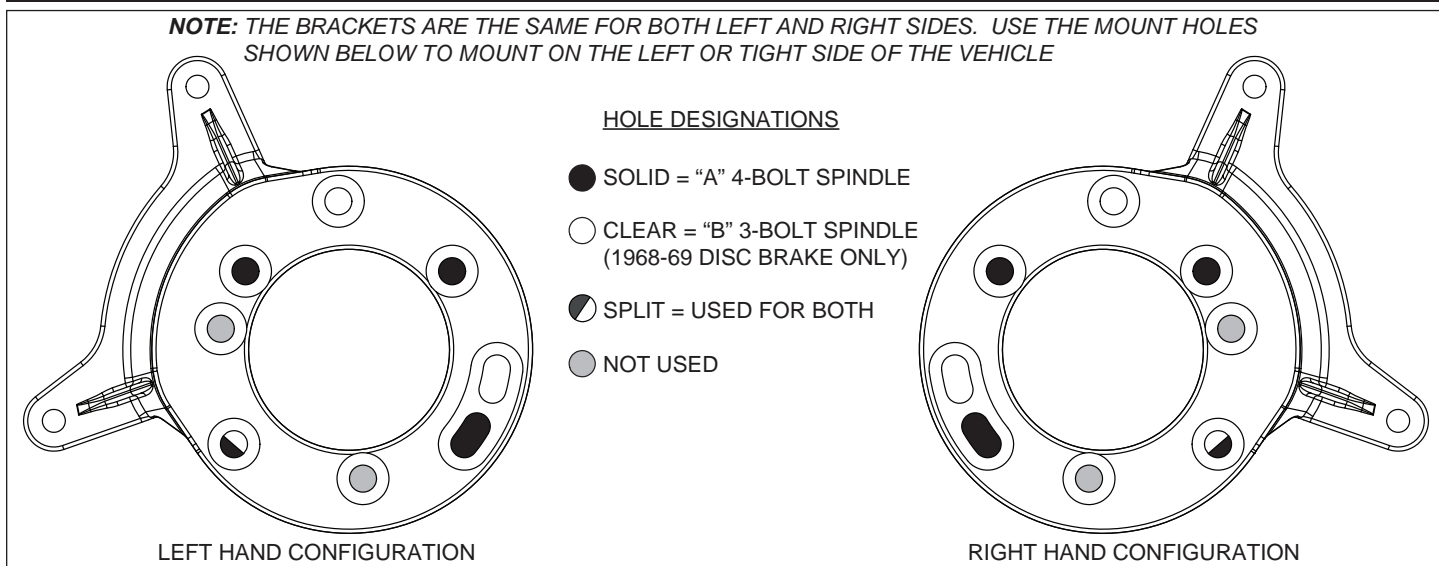
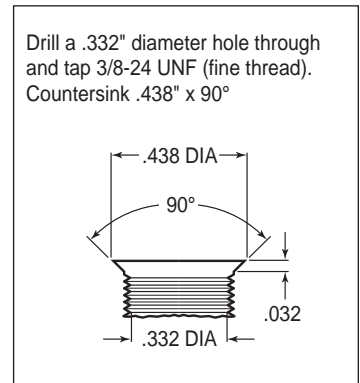
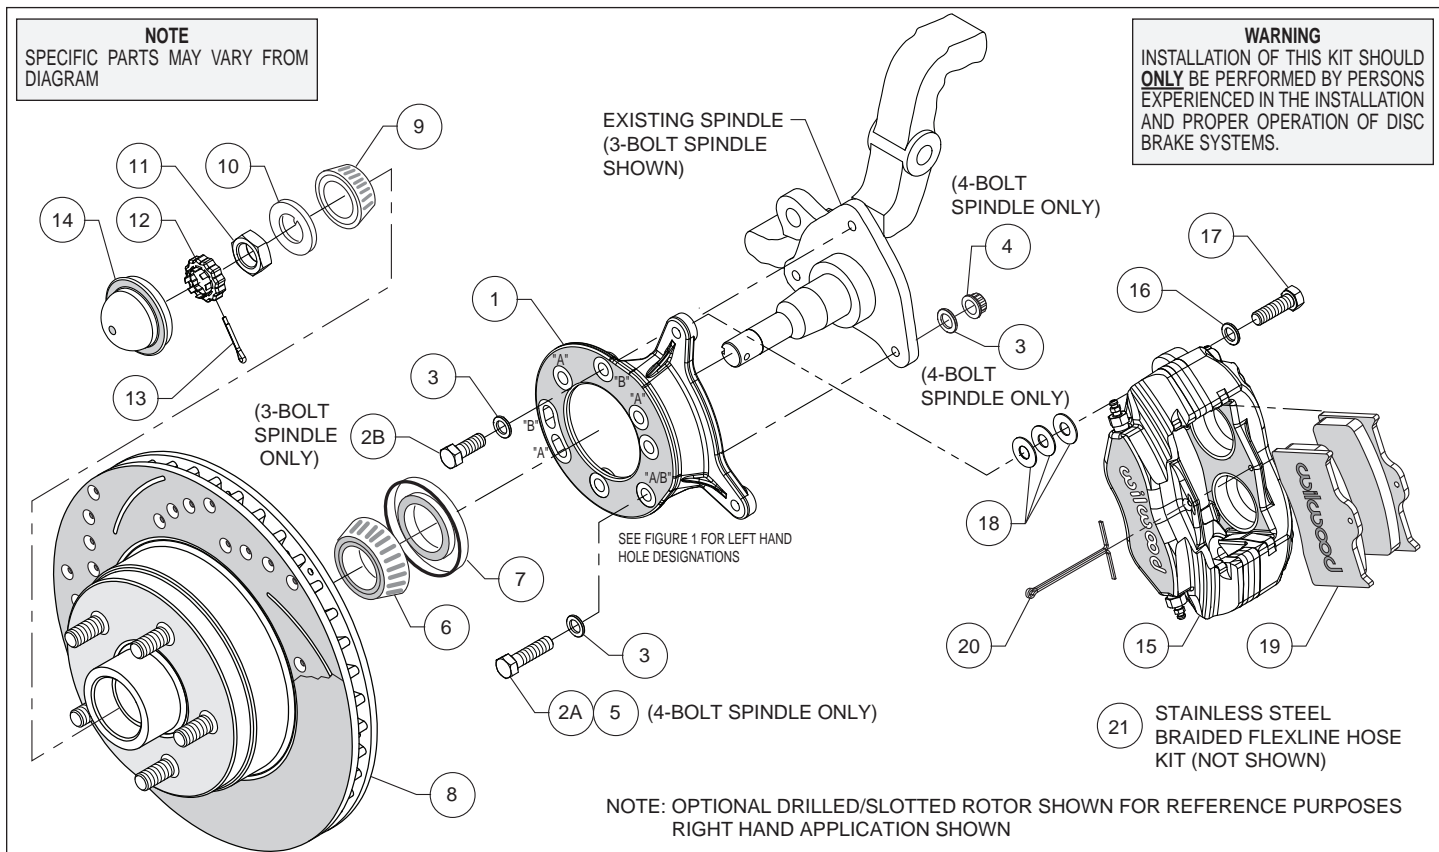

Figure 1. Wilwood Caliper Mounting Bracket
Figure 2. Drill and Tap Detail
Figure 4. Typical Installation Configuration
This kit has been designed for use with both three and four bolt spindle configurations. The only difference is in how the Wilwood caliper mounting bracket is installed. The same bracket is used for both configurations; only the 1968-69 disc brake spindle utilizes three mounting holes while all other spindles use the four mounting holes (see Figure 1). For your convenience we have supplied bolt kits for both applications (see parts list and Figure 4 as necessary). Use the bolt kit that is applicable to your vehicle and disregard the other one.
**NOTE:** This modification should be performed by a qualified machinist and completed before assembly of the Wilwood disc brake kit begins. Using the caliper mounting bracket as a template (refer to Figure 1 as necessary), locate and verify the three original holes on the spindle that need to be modified. Drill a .332" diameter hole through all three holes, then tap 3/8-24 UNF (fine thread). Countersink the holes to .438" diameter x 90°, as shown in Figure 2.
**Assembly Instructions** (numbers in parenthesis refer to the parts list, and Figure 4).
•**NOTE:** This kit uses the same mounting bracket (1) for both the three and four bolt brake spindles. The 4-bolt version, Photo 1, uses four mounting bolts (designated "A"), while the 3-bolt version, Photo 2, uses three (designated "B"). Refer to Figures 1 and 4 for the basic installation position of the bracket and the "A" and "B" reference designations (not physically marked on the brackets).
**For 4-Bolt Spindle:** Align bracket, using the four "A" holes, to the face of the spindle and attach using bolts (2A and 5), washers (3), and lock nuts (4), as shown in Figure 4 and Photo 1. Torque lock nuts to 30 ft-lb.
**For 3-Bolt Spindle (1968-69 Disc Brake):** Align bracket, using the three "B" holes, to the face of the spindle and attach using bolts (2B) and washers (3), as shown in Figure 4 and Photo 2. Finger tighten. Remove bolts one at a time, apply red *Loctite*® 271 to threads, and torque to 40 ft-lb.
•Pack the large inner bearing cone (6) with high temperature disc brake bearing grease (available from your local auto parts store) and install into the backside of the hub (8), Photo 3.
•Install the grease seal (7) by pressing into the backside of the hub (8), flush with the end of the hub.
•Pack the small outer bearing cone (9) with high temperature disc brake bearing grease and install into the front side of the hub (8). Slide the hub/rotor onto the spindle. Secure using spindle washer (10) and spindle nut (11). Adjust bearings per OEM specifications. Install spindle nut retainer (12) and a new cotter pin (13), Photo 4.
•Press the dust cap (14) into hub (8), Photo 5.
•Mount the caliper (15) onto the caliper mounting bracket (1) using bolts (17) and washers (16), as shown in Figure 4. Initially place three .035" thick shims (18) on each bolt between the caliper and the bracket, Photo 6. Temporarily tighten the mounting bolts and view the rotor (8) through the top opening of the caliper. The rotor should be centered in the caliper, Photo 7. If not, adjust by adding or subtracting shims between the bracket and the caliper. Always use the same amount of shims on each of the two mounting bolts. Once the caliper alignment is correct, remove the bolts one at a time, apply red *Loctite*® 271 to bolt threads, and torque to 40 ft-lb.
•Install the disc brake pads (19) into the caliper, with the friction material facing the rotor (8), Photo 8. Secure in place using cotter pin (20), Photo 9.